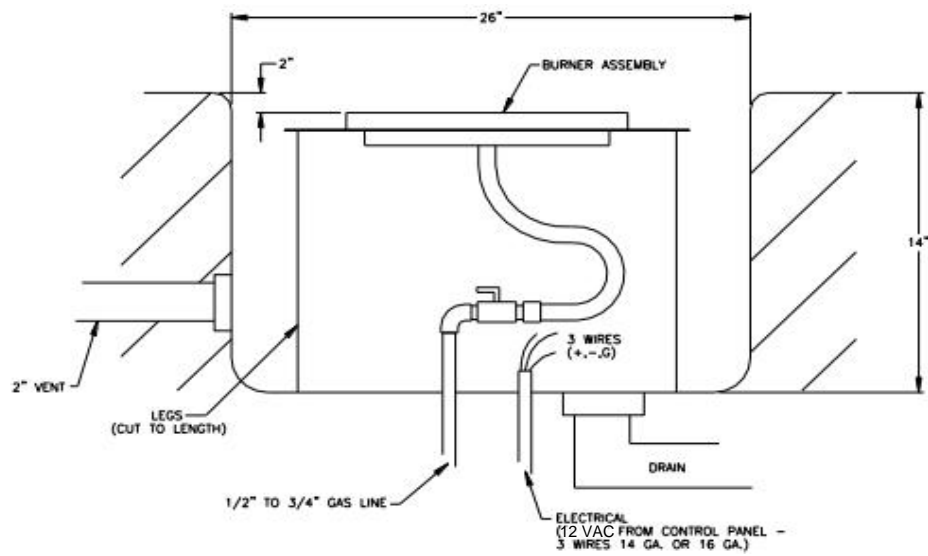

Figure 5
9. Install 90° pipe elbow and gas hose at the gas connection as shown in Figure 5.
1. The height of the flame can be adjusted at each burner by opening or closing the 1/2" gas valve or keyed valve as shown in Figure 5.